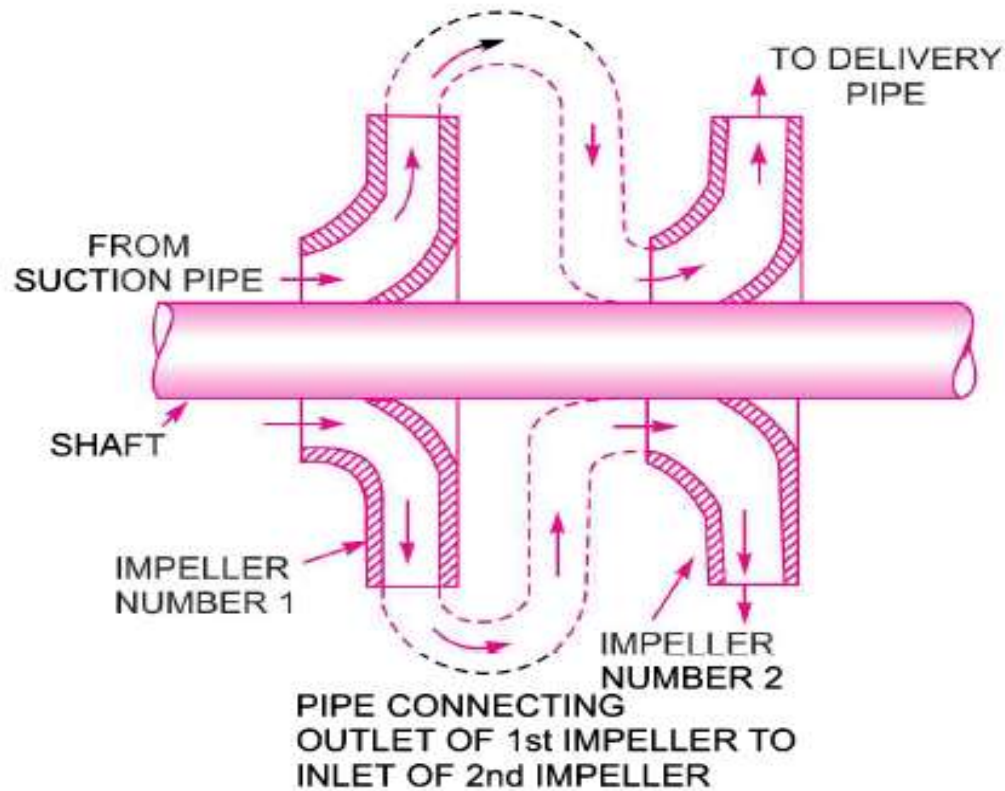

Fig. 1 *Two-stage pumps with impellers in series.*
**I Multistage Centrifugal Pumps for High Heads.** For developing a high head, a number of impellers are mounted in series or on the same shaft as shown in Fig. 1
The water from suction pipe enters the 1st impeller at inlet and is discharged at outlet with increased pressure. The water with increased pressure from the outlet of the 1st impeller is taken to the inlet of the 2nd impeller with the help of a connecting pipe as shown in Fig. 1 At the outlet of the 2nd impeller, the pressure of water will be more than the pressure of water at the outlet of the 1st impeller. Thus if more impellers are mounted on the same shaft, the pressure at the outlet will be increased further.